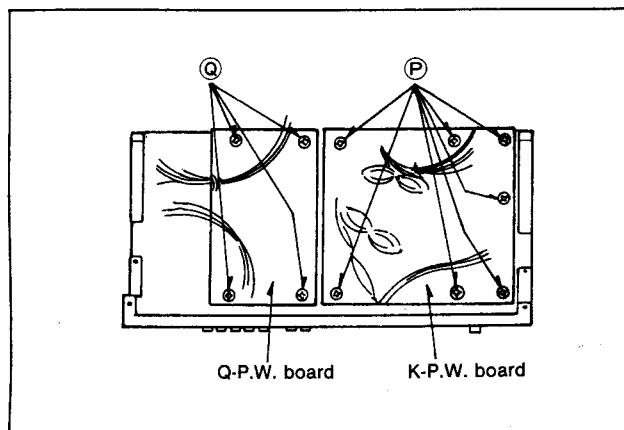

Fig. 13
- 3) Tighten the 2 screws (T) on the sliding section (if necessary), and securely fasten the A-P.W. board into the unit with the bracket raised.
- 6) Remove 6 screws (P), and remove the K-P.W. board as shown in Fig. 13.
- 7) Remove 4 screws (Q), and remove the Q-P.W. board as shown in Fig. 13.